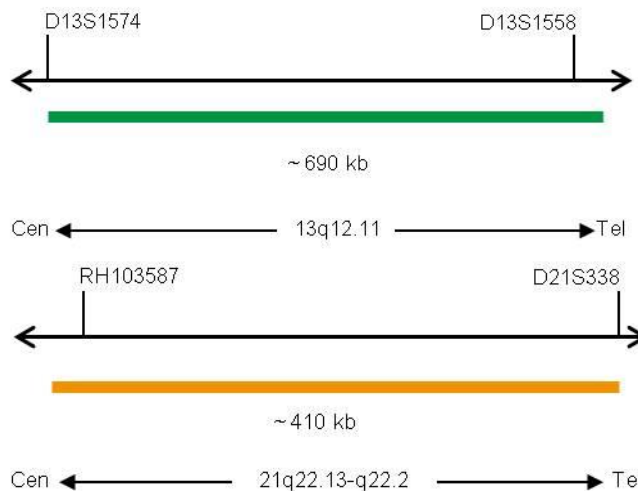

Fig. 2: Top: SPEC 13q12.11 Probe map; Bottom: SPEC 21q22.13-q22.2 Probe map (not to scale)
- ZyGreen (excitation 503 nm/emission 528 nm) labeled polynucleotides (~10.0 ng/μl), which target sequences mapping in 13q12.11* (chr13:20,200,365-20,892,494) (see Fig. 2).
- ZyOrange (excitation 547 nm/emission at 572 nm) labeled polynucleotides (~4.5 ng/μl), which target sequences mapping in 21q22.13-q22.2* (chr21:39,372,983-39,784,773) (see Fig. 2).